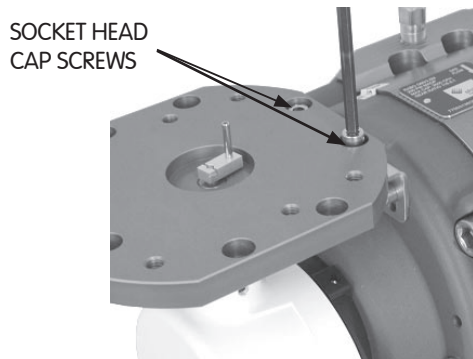

Figure 28.
- (3) Fully insert the adaptor plate assembly post into the index cover output hole.
- (4) Orient the adaptor plate to the desired direction (4 positions are possible: Facing away from the meter, facing the meter, facing the meter inlet, or facing the meter outlet).
- xiv) Using a 5mm Allen wrench, install two M6 socket head cap screws through the adaptor plate into the support bracket assembled in a previous step [Figure 28]. Tighten to 45-50 in-lbs.